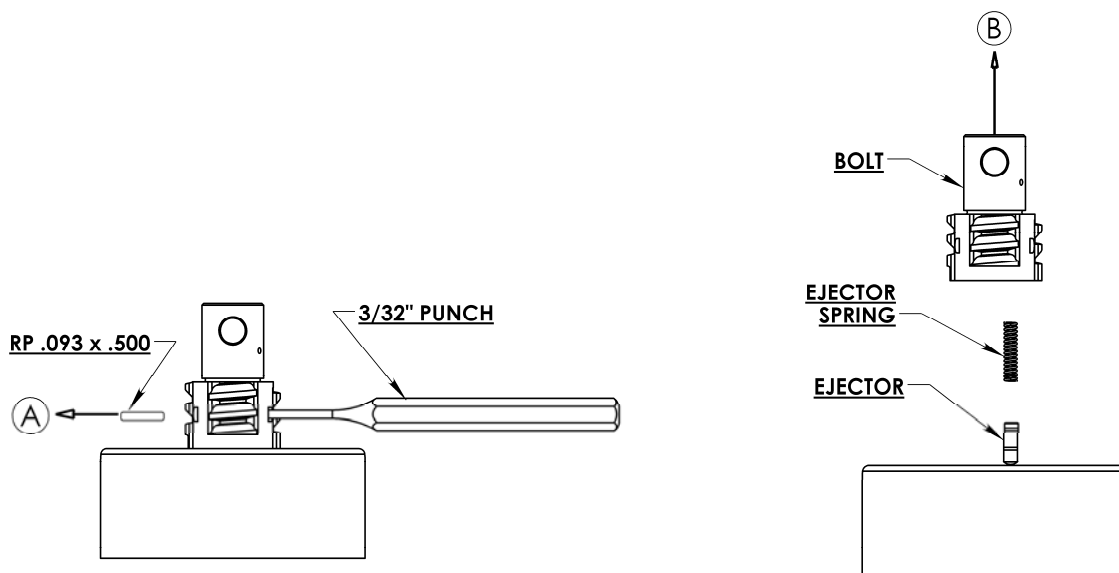

Figure 16.
1. Hold the bolt face firmly against a flat work surface. Drive the ejector pin out of the bolt with a 3/32 punch. (Figure 16, Step A.) Leave the punch inserted in the ejector hole.
2. Grip the bolt and slowly lift the bolt from the work surface and remove the ejector and ejector spring. (Figure 16, step B.) Note the direction of the ejector as it is removed from the bolt. Remove the punch.